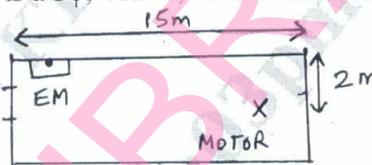

Fig.Q5(b)
- b. Calculate the input power, current and estimate to complete the wiring of the workshop shown in Fig.Q5(b). Provide a neat circuit diagram and detailed list of materials. Use $\eta = 85\%$, $\text{pf} = 85\%$. The motor is a 3 ϕ , 415 V, 10 kW induction motor. (12 Marks)